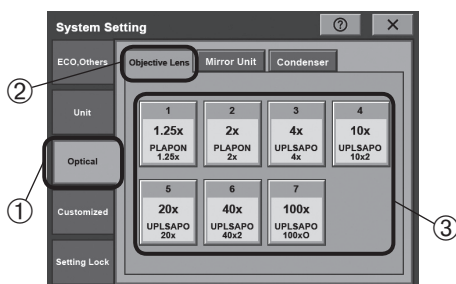

Fig. 9
1. Tap the [Optical] tab ① in the [System Setting] display to open the [Optical] display.
2. Tap the [Objective Lens] tab ② in the [Optical] display (Fig. 9).